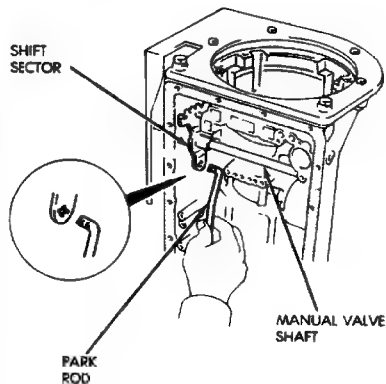
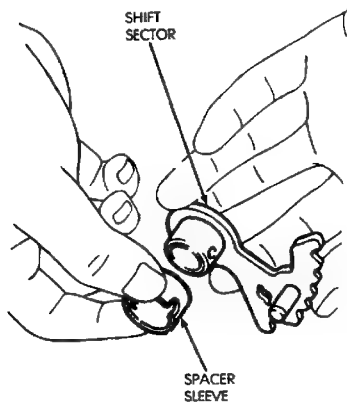

Fig. 21 Removing/Installing Park Rod
Fig. 25 Installing Spacer Sleeve On Sector
- (4) Remove park rod from shift sector (Fig. 21).
- (11) Install new spacer sleeve on sector (Fig. 25).
- (12) Lubricate manual valve shaft and install it in case.
- (13) Lubricate sector and sleeve and install them on shaft.
- (14) Align hole in spacer sleeve with notch in sector. Then install shift sector roll pin. Tappin into sector and shaft and stake sleeve to sector and shaft securely.
- (15) Connect park rod to sector (Fig. 21).